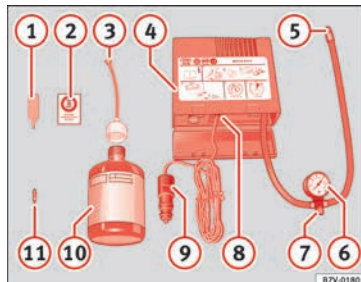

Fig. 83 Standard representation: contents of the anti-puncture kit.
»» Fig. 83:
Screw the inflator tube **»» Fig. 83** ⑤ again and check the pressure on the gauge ⑥.